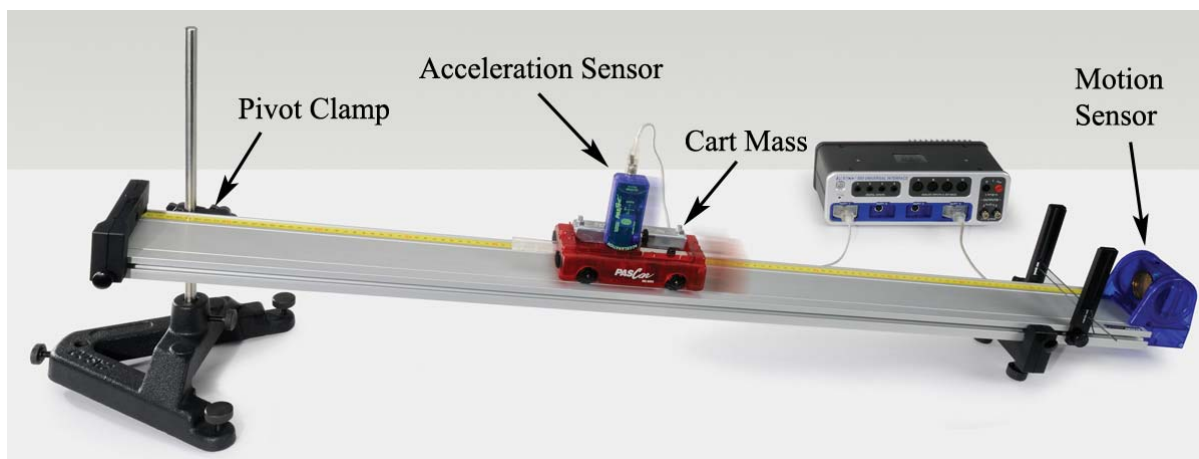

Figure 1: Inclined Track
The purpose of this lab is to study the relationship between position, velocity and acceleration. A Motion Sensor is used to record the motion of a cart as it moves up and down the inclined track (see Fig. 1). The acceleration of the cart is calculated from a velocity graph, and compared to the acceleration measured directly from the Acceleration Sensor on the cart.
1. Use the Pivot Clamp with the Rod Base and the 45 cm Rod to incline the track as shown in Figure 1. The height of the raised end of the track should be about 20 cm.
4. Attach the Acceleration Sensor to the cart using the Mounting Bracket as shown in Figure 3. Plug the sensor into Port P1 of the interface. The LED on the sensor should be off. Place the cart on the incline as shown in Figure 1, including the extra Cart Mass.